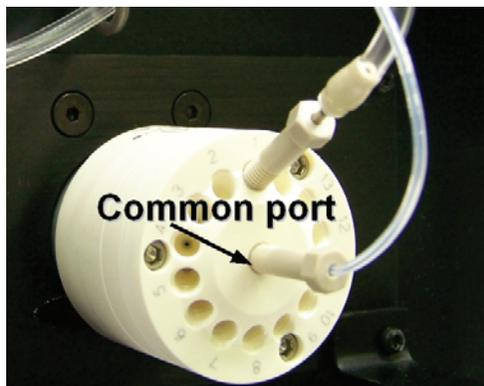

Figure 1. Common port on the sample selection 14-port valve.
- Next, run a fast rinse with only the buffer selected. While the fast rinse is running watch the common port line to see if bubbles are leaving the valve via this line (**Figure 1**). If the bubbles appear to be coming from the 14-port valve itself and not from any other source then the valve may be dirty, clogged, or loose.